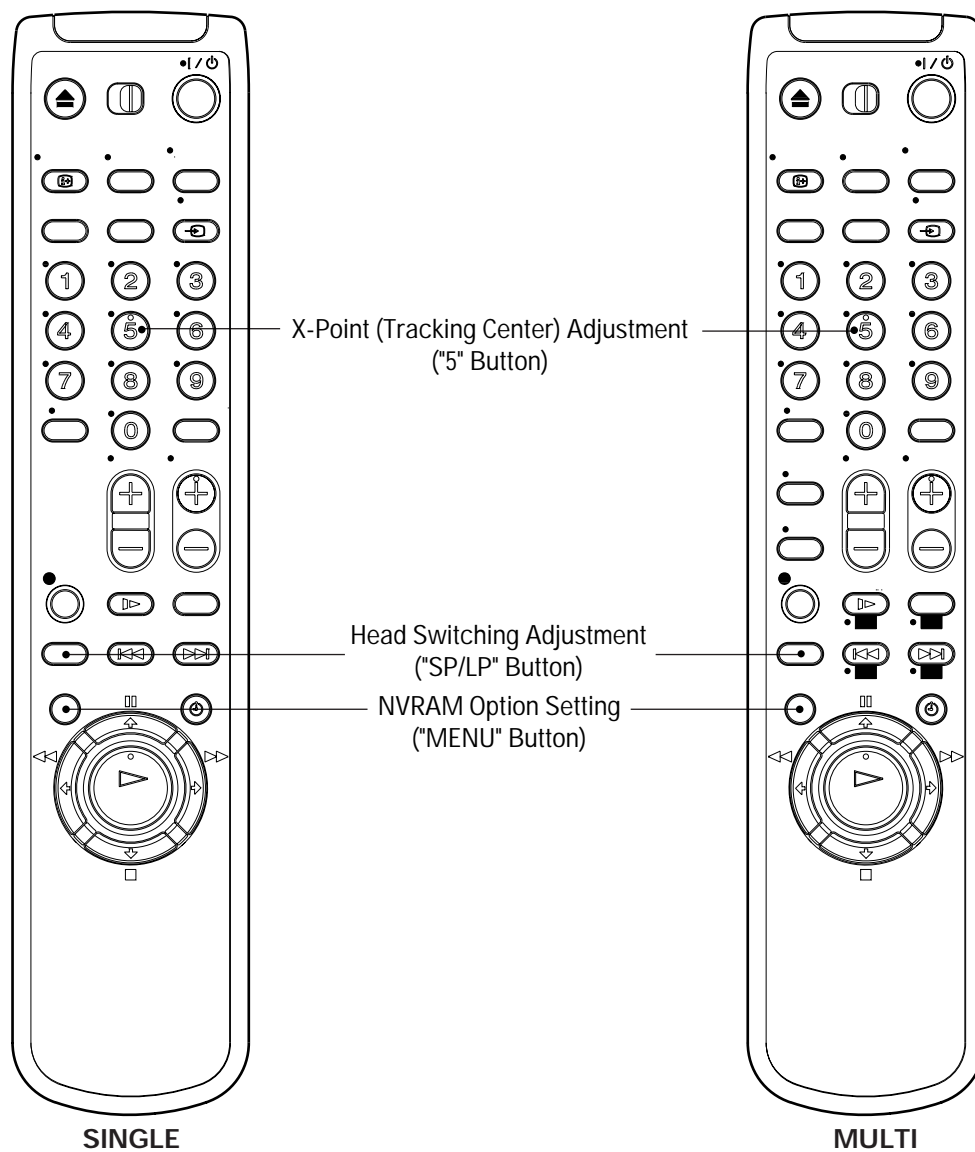

Fig. 5-1
- 3) Press the "5" button of remote control then adjustment is operated automatically. (See Fig. 5-1)
- 3) Press the “SP/LP” button of remote control then adjustment is operated automatically. (See Fig. 5-1)